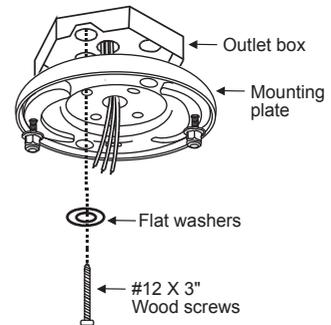

Fig. 6
2. Use the two #12 X 3" wood screws and washers to secure the mounting plate directly to the building joist via the knockout holes from the outlet box. (Fig. 6)